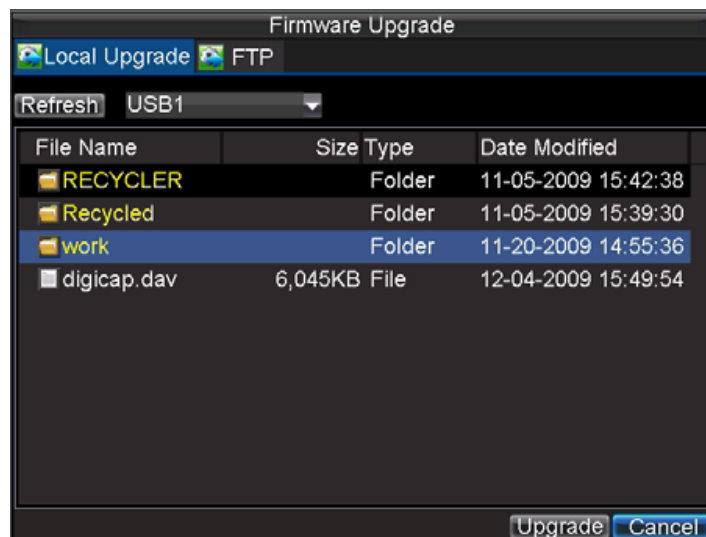

Figure 14.11. Firmware Update Menu
- 2) Click Menu > Maintenance > Upgrade to enter the Firmware Update menu, shown in Figure 14.11.